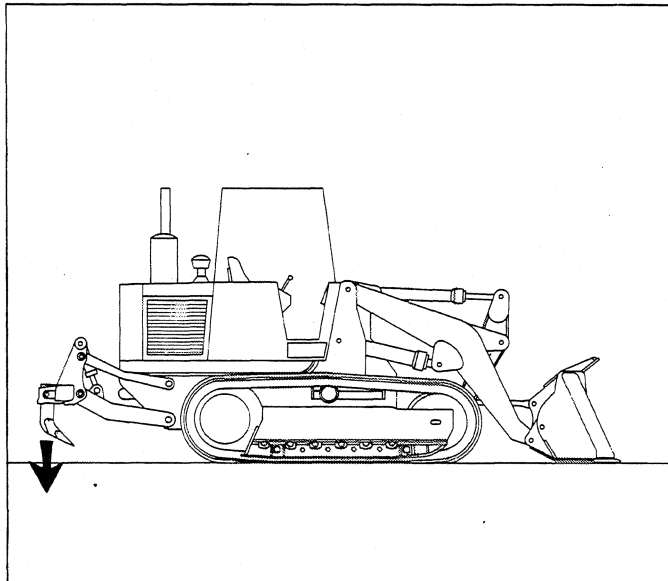

Fig. 7E
Pull lever into position (E) for ripper lifting (fig. 7E).